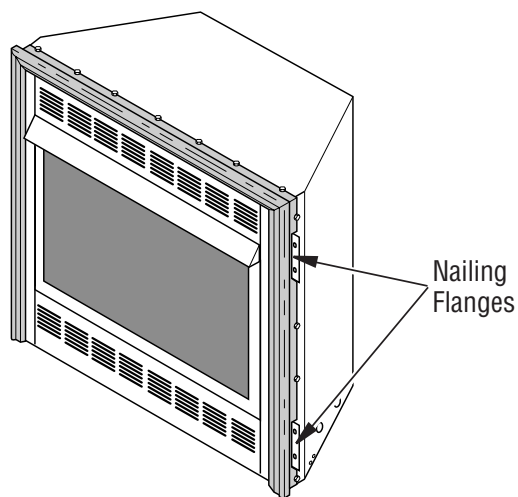

Figure 11 - Location of Nailing Flanges
7. Break off nailing flanges (see **Figure 11**) with hammer or pliers.